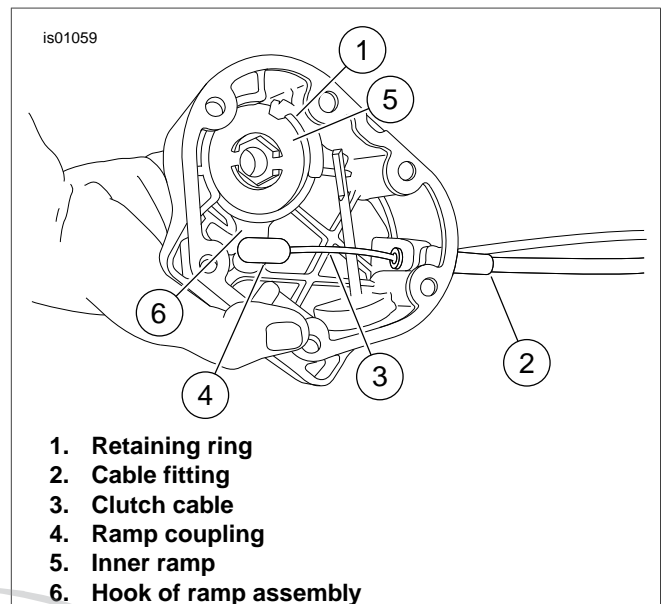

Figure 3. Clutch Cable Connection
- See Figure 3. Apply a light coat of clean engine oil to the new O-ring and install the O-ring onto the threaded portion of the clutch cable (3). Insert the clutch cable fitting (2) into the clutch release cover, being careful not to exert any sideways force on the fitting during installation. Do not tighten the cable fitting at this time.
- Connect the cable end to the coupling (4). Rotate the ramps for best access and install the coupling on the inner ramp. Place the ramp assembly in position in the clutch release cover.